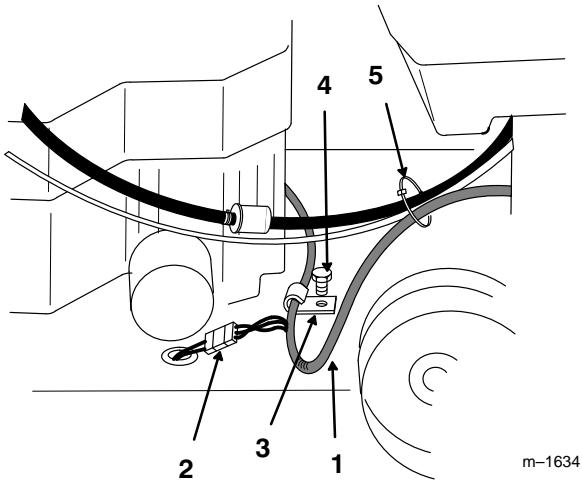

Figure 7
- Secure wire harness and throttle to upper handle with cable tie (Fig. 7).
- Route wire harness down inside left handle, under fuel tank bracket and behind engine. (Fig. 7).
- Plug clutch connector, coming up through frame at side of engine, into wire harness (Fig. 7).
- Secure wire harness to frame behind engine with cable clamp, just past clutch connector lead (Fig. 7).